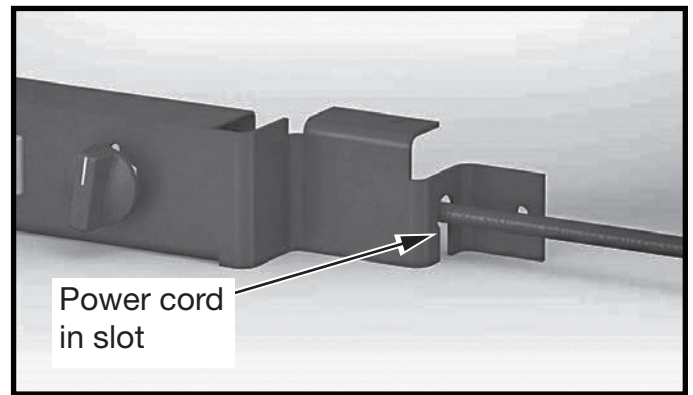

Figure 9: Control assembly.
2. Remove the power cord from the slot in the right side end of the control assembly (Figure 9).